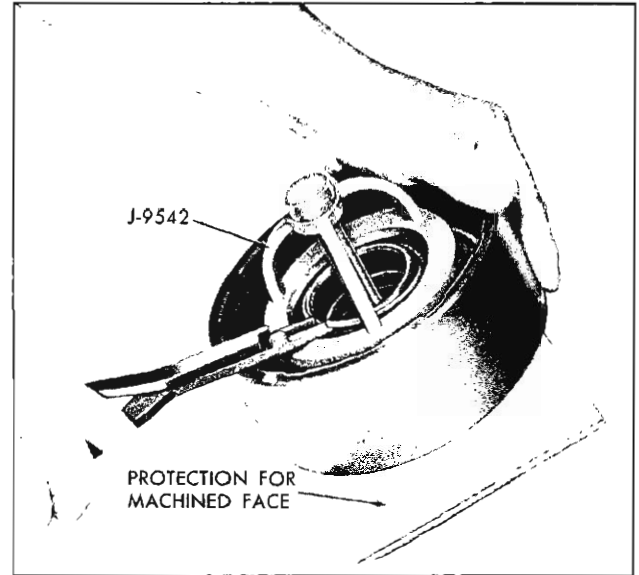

Fig. 25PG—Removing Clutch Spring Retainer Snap Ring
4. Remove the spring retainer using J-9542 as shown in Figure 25PG, or if using an arbor press, use J-5133 and J-7782 adapter ring. Compress the springs far enough to allow removal of the retainer snap ring; then, releasing pressure on the springs, remove the retainer and the springs.